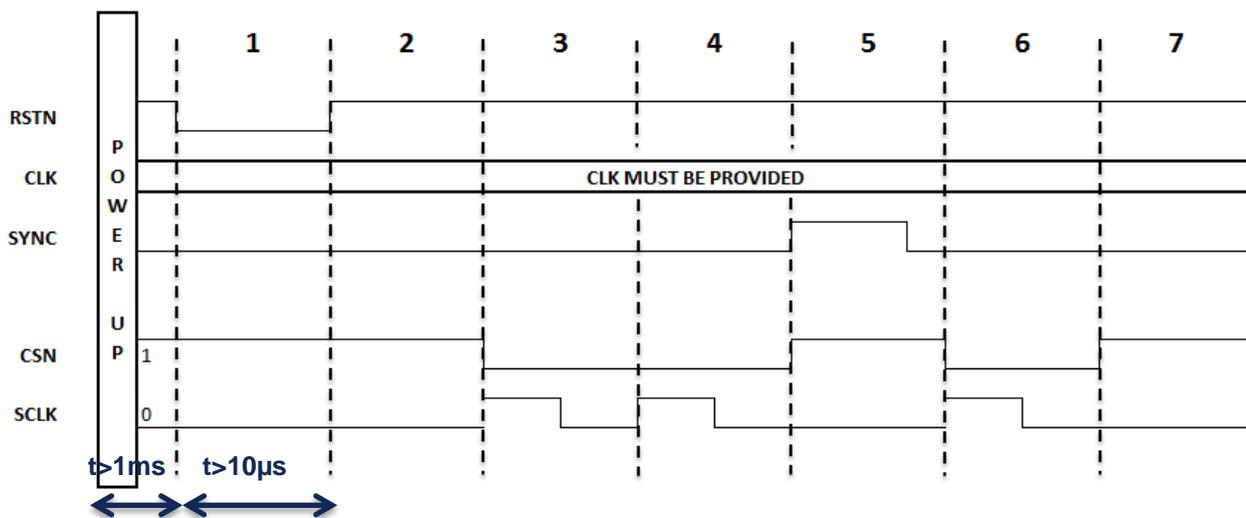

Figure 11: Start-up sequence when using the SPI interface
Figure 11 presents the reset and synchronization to realize after power-up when the SPI interface is used (see section Serial Peripheral Interface for more information on the SPI interface).
5. A pulse is applied onto the SYNC input to reset the internal clocks (SYNC signal in Figure 11). At this stage the bit 7 of register CHIP_CTRL must be at '0' (trigger mode disabled) – see section SYNC input;